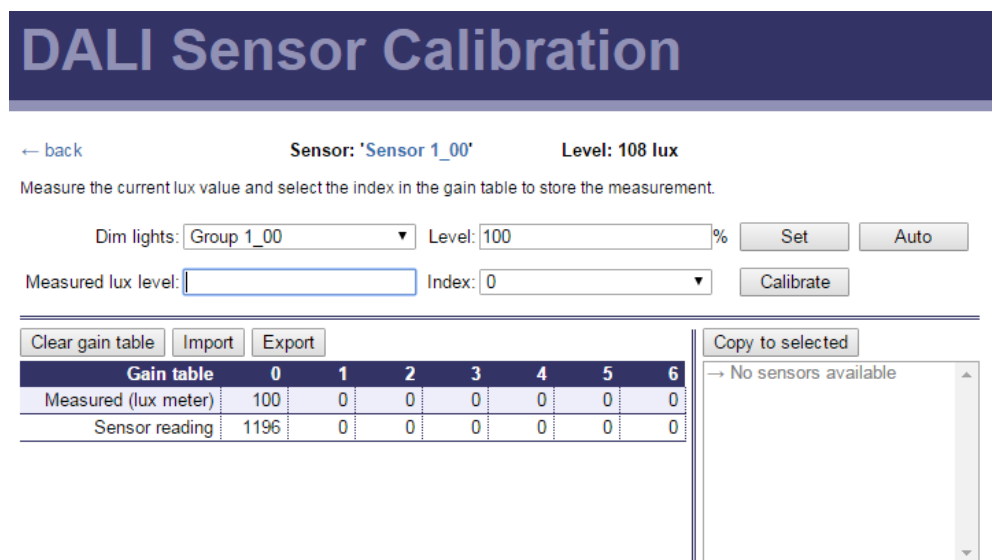

Figure 32: DALI Installation Web Interface: Sensor Calibration.
- Go to the DALI Installation page and press the **Calibrate** button next to the sensor that is to be calibrated. The DALI sensor calibration page is shown in Figure 32.